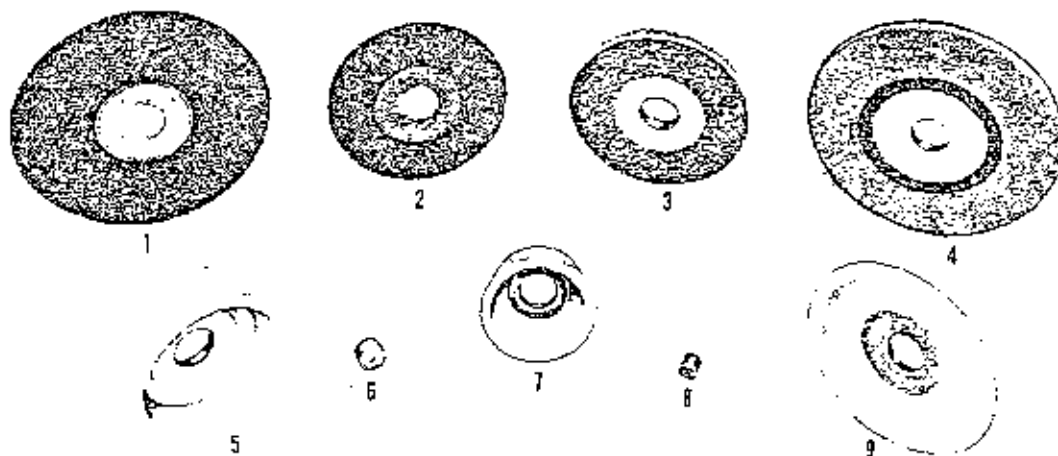

Figure 2-5-2.—Types of grinding wheels.
Typical wheels required for sharpening cutters and for other types of grinding are illustrated in figure 2-5-2. Reading from left to right the wheels are used as follows: (1) for